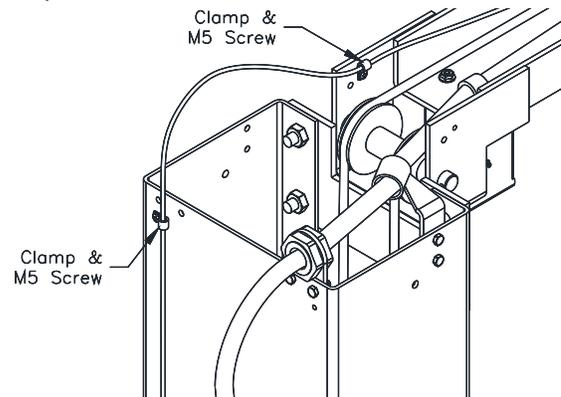

Fig. 10 – Lock Cable Routing
32) Secure Lock Release Cable at the top of each column extension as shown in **Fig 10**. Lock Release Cable should be routed on the opposite side of the Overhead Beam as the Idler Hose to prevent interference.